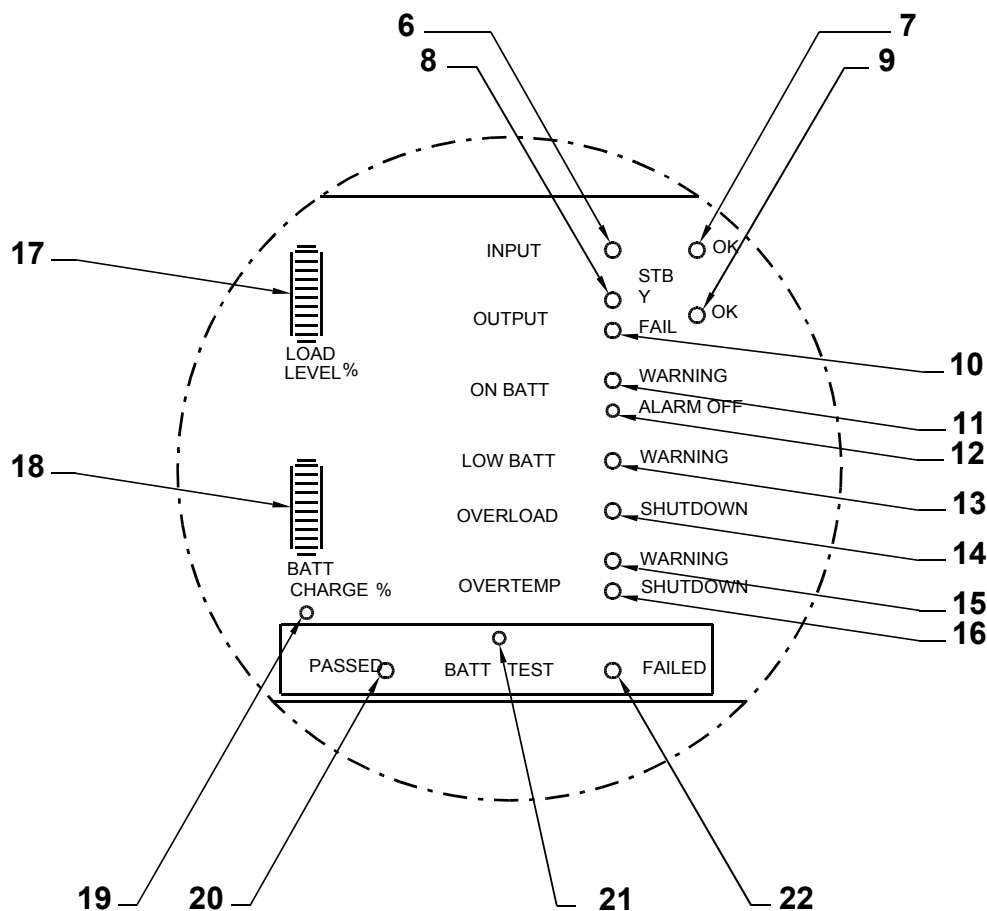

Figure 5 - Front Panel: Indicators and Switches
2. Visual Indicators and Switches(for detailed view see Figure 5).
4.2 Front Panel: Indicators and Switches (See Figure 5)